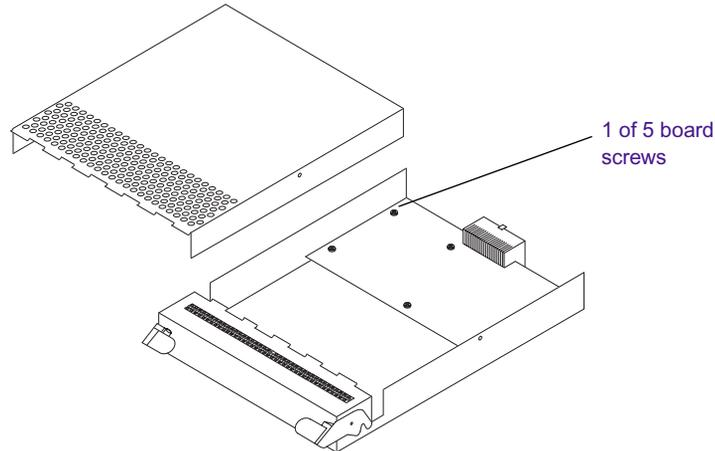

Figure 11 Configuration Module Board Screws
5. Remove the configuration module board screws (see Figure 11).